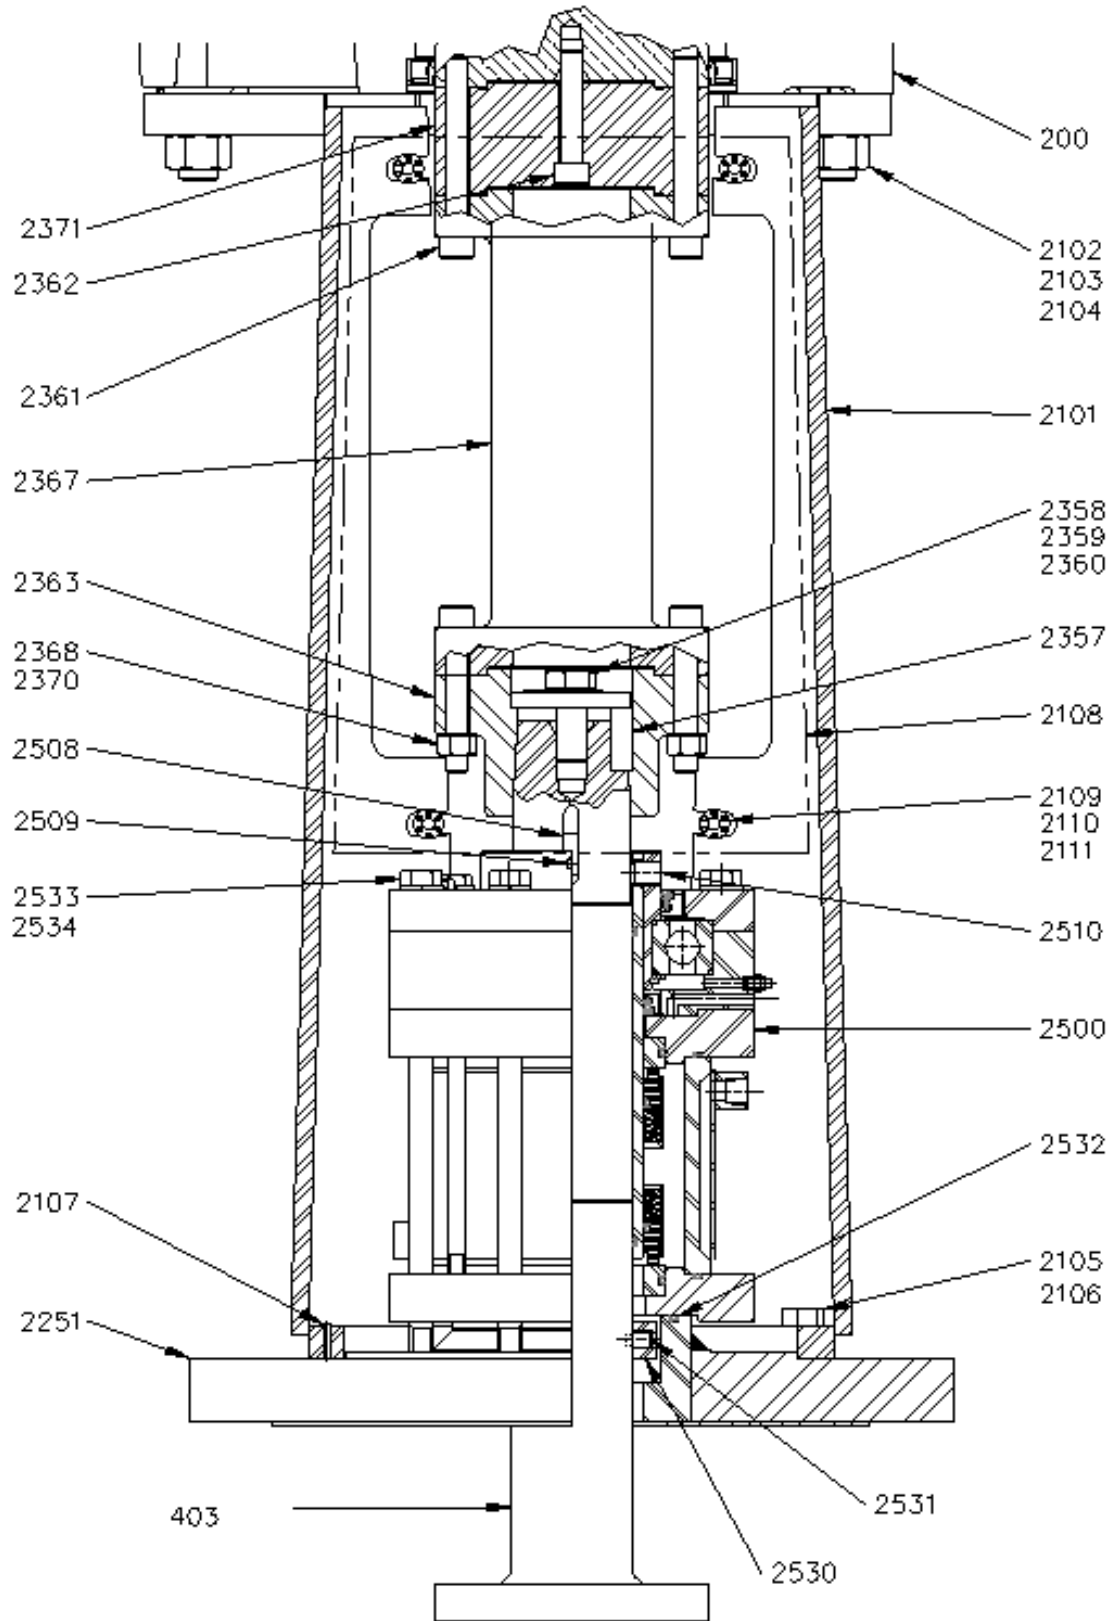

Figure 30A. N Style – Cartridge Mechanical Seal
3. Loosen all three setscrews [2510] and setscrew [2509] one turn. (Figure 30A, page 85)
4. Lower drive shaft [403] by evenly loosening bolts [2361]. (Figure 30A, page 85). The drive shaft should drop approximately 1/2" (12 mm) allowing shaft collar [2530] to seat on mounting flange [2251]. If the shaft does not drop, tapped holes are provided in spacer spool [2367] upper flange for inserting bolts to jack the shaft down. Use these carefully, shaft will drop quickly.